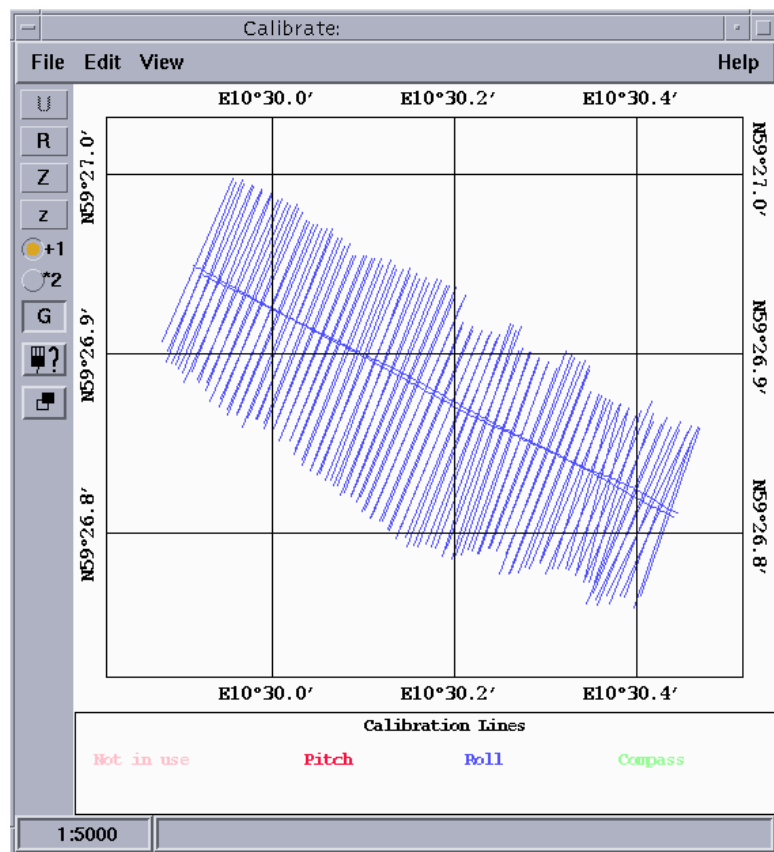

Figure 98 - Calibration main window
- *The graphic presentation is shown in figure 98.*